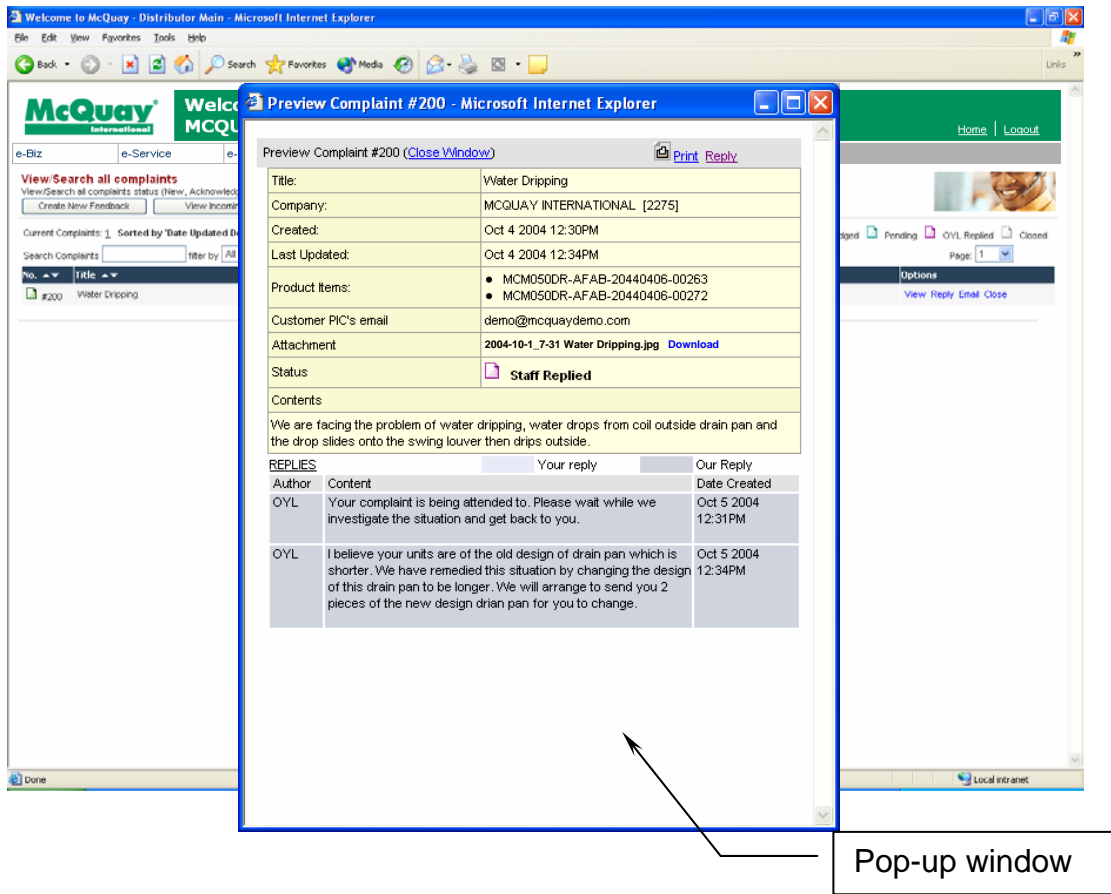

Figure 14
- 1) Click View link to access the view page. A pop-up window appears as shown in Figure 14.